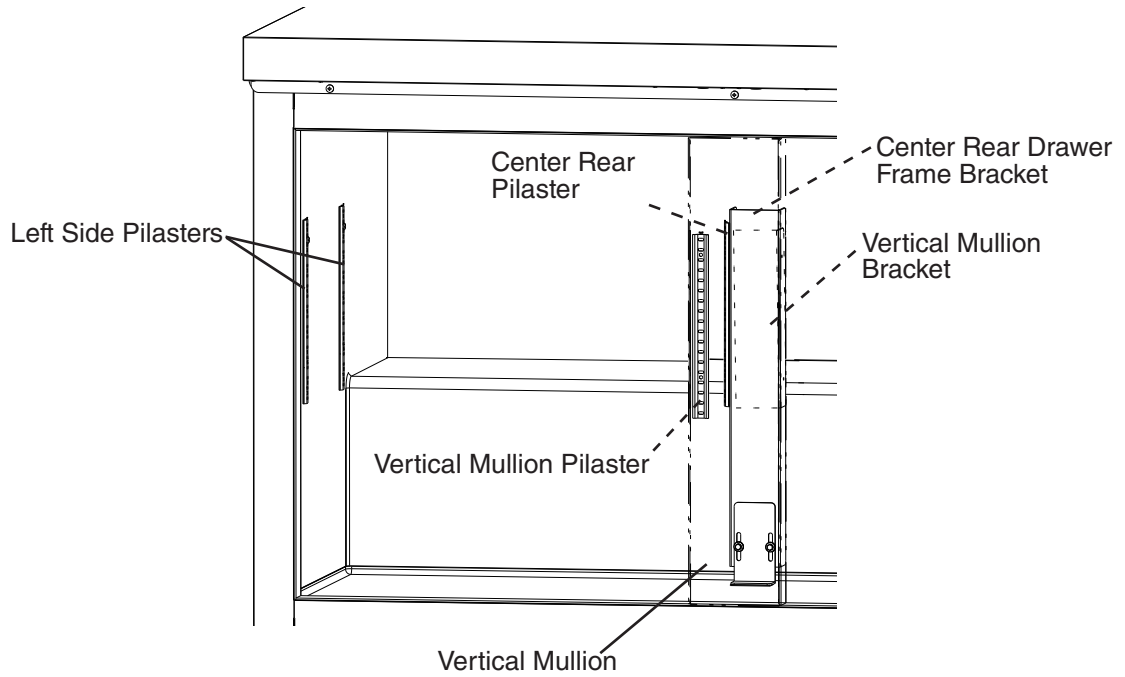

Fig. 29
- 8) Place and secure the pilasters and shelf support clips in their new location. See Fig. 29. Replace the shelf.